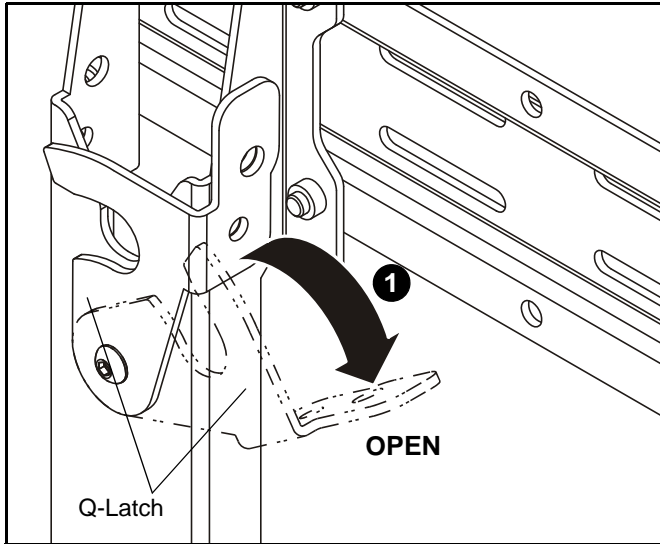

Figure 3
1. Move Q-Latches on mount to the OPEN position. (See Figure 3)